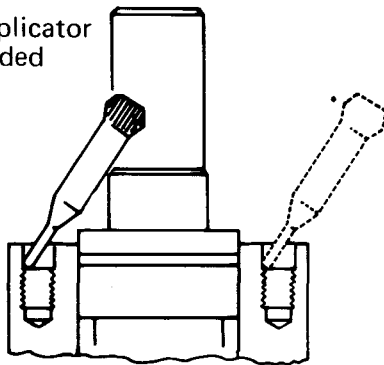

Figure 21
**35** Apply 3 or 4 drops of Loctite adhesive (Eaton no. 9063-1) (Loctite no. 601 sealant) at top of threads in each of 4 holes in housing, see Fig. 21. Do not allow parts with Loctite applied to surface to contact any metal parts other than their proper assembly. Wipe off excess Loctite from housing face, using a non-petroleum base solvent. Do not apply Loctite to threads more than 15 minutes before installing screws. If housing stands for more than 15 minutes, repeat application. No additional cleaning or removal of previous Loctite is necessary.